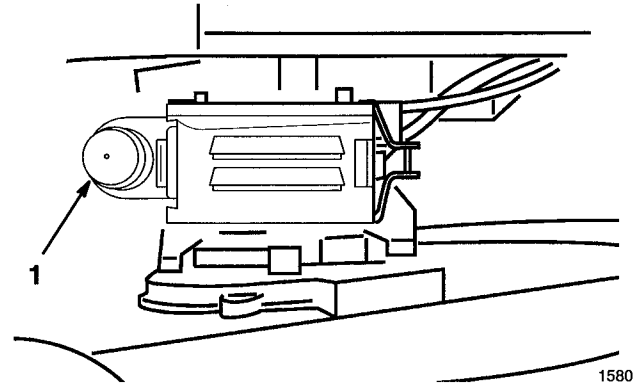

Figure 13
3. Push primer three (3) times (Fig. 13). Wait about two (2) seconds between each push.